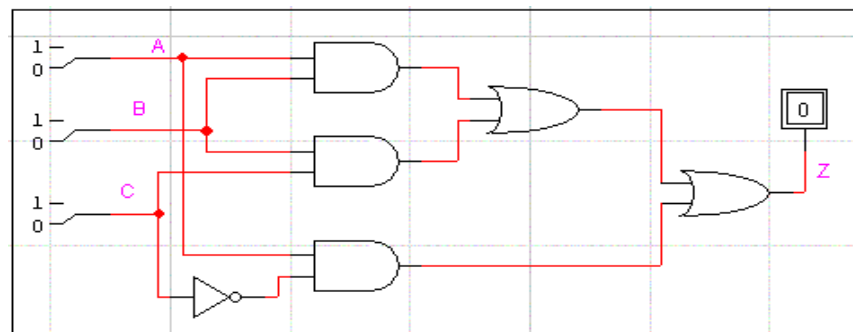

Fig. 11 Connection
- Connect the output of this inverter to one of the inputs of the last AND gate and connect the other AND gate input to switch A. Your design should now resemble the circuit window in Fig.11